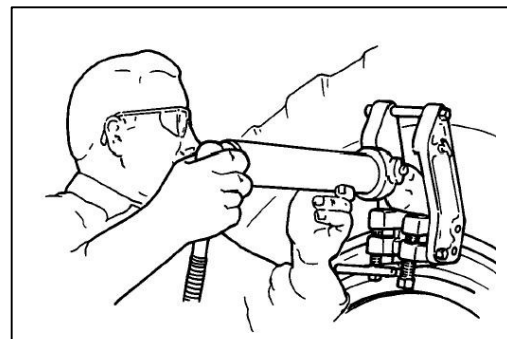

Figure 3
3. With spade tip down and cylinder in retracted position, insert spade and cylinder assembly between open sides of frame. Place spade tip between tire bead and rim flange. (See Figure 3.)
4. Lift cylinder until trunion engages frame shoulder and move stop screw into support cylinder. (See Figure 3.)
5. Apply pressure to cylinder and spade by means of pump until spade has moved tire bead toward center of rim assembly far enough to permit the placing of a bead wedge between bead and flange on each side of the tool. Do not stand in front of tool is under pressure. (See Figure 3.)
6. Release pump pressure. Remove spade and cylinder assembly from frame. Loosen clamping jaw bolts and remove from flange. Move to spot approximately 90° from first application (either direction) and repeat entire procedure. Repeat procedure until tire bead is free. Four or five applications usually accomplishes this. (See Figure 3.)